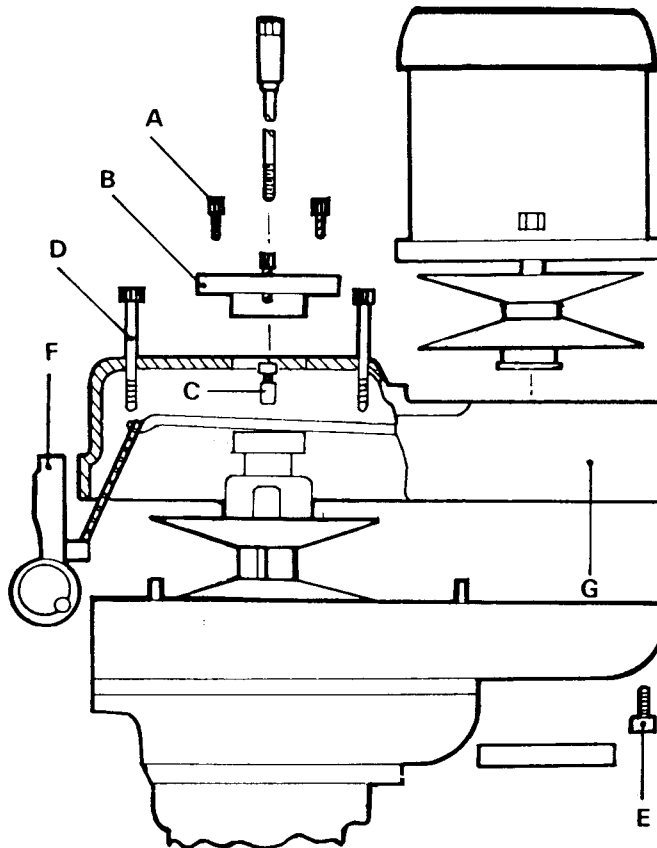

Figure 12. Removing the Vari-Drive Belt
CHANGING VARI-DRIVE BELT (Figure 12)
Complete the above procedures for removing the motor, then remove the three screws (#1 page 38) (A, Figure 12) and lift out the top bearing cap (#2 page 38) (B). Looking down inside of the housing, locate and remove two socket head cap screws (#17 page 38) and sleeves (#19 page 38) (C). Next, remove the four screws (#6 page 38) (D) and the screw (#55 page 38) (E) holding the belt housing (G) to the base (#53 page 38). Unscrew and remove the two lower screws (#25 page 36) in the speed changer bracket just below the speed dial (#2 page 36) (F).